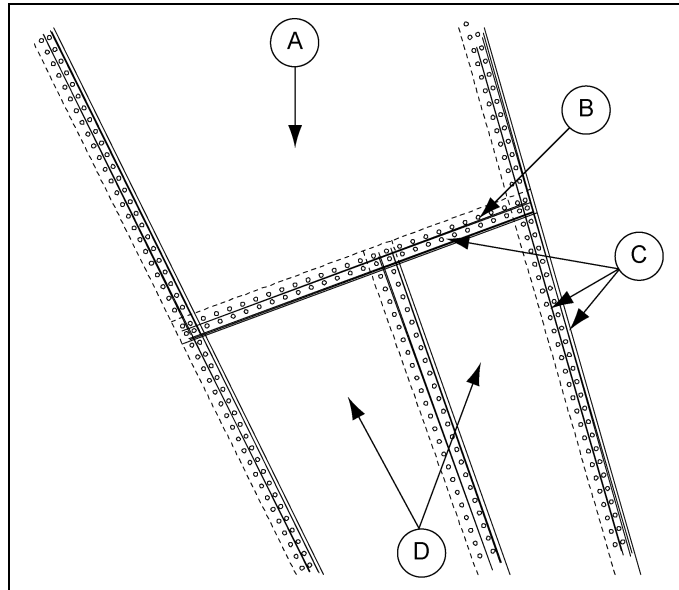

Figure 7H Caulking Detail
The 36' hopper bottom has three (3) sections. Apply caulk to all hopper section seams as shown in Figure 7H on Page 30.